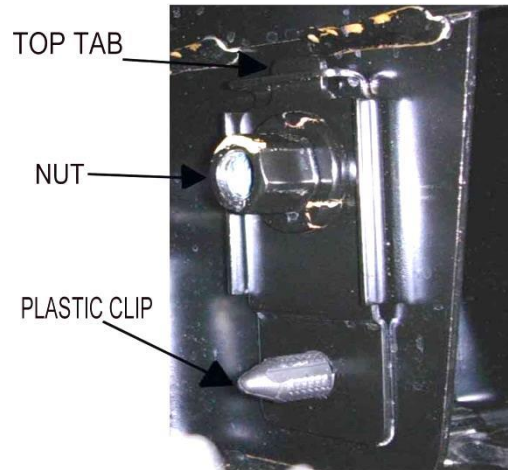

Figure 1
**Step1** - Remove the bolt. Once the bolt is removed the outer plate must be swung up approximately 60 degrees then slide the plate out. For the inner plate there is a plastic clip which holds the bracket in place, Lever the plastic clip out and the bracket will slide down and out. Note the inner bracket has the nut welded onto it (figure 1).